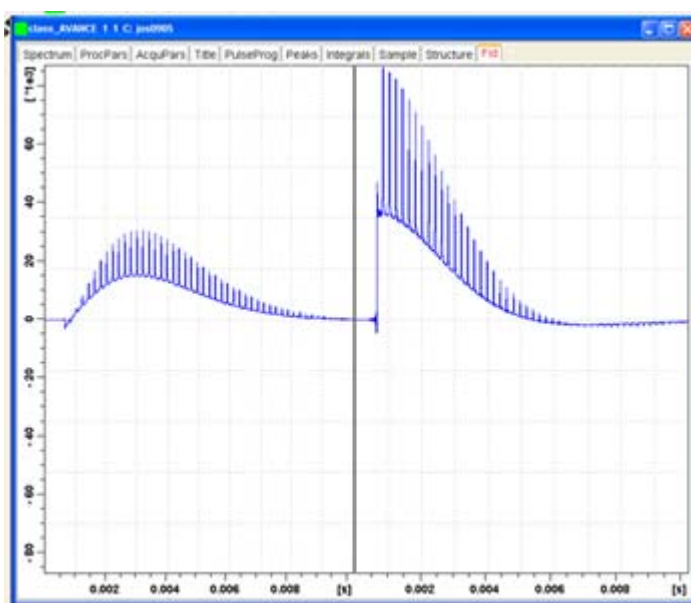

Figure 2.7 The figure shows the FID after magic angle adjustment
- Optimization is achieved by maximizing the spikes riding on the time signal (see Figure 2.7).